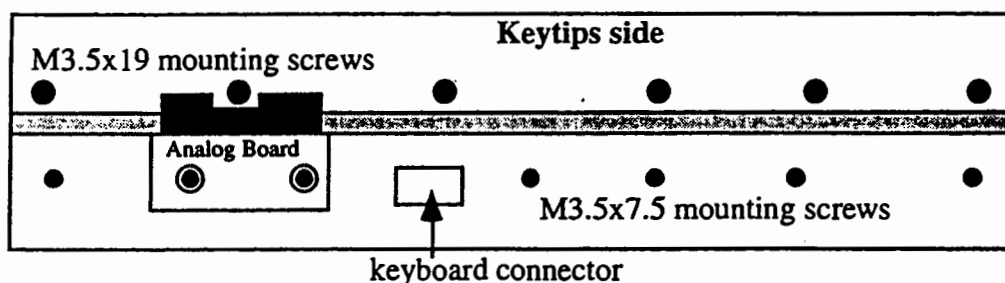

Figure 18 -
2. Turn the unit upsidedown and remove all the screws from the base and rear panel. Note that six (6) screws along key tip edge are self-tapping.
5. Remove the thirteen (13) screws that hold the keyboard to the keyboard mounting bracket (see Figure 18):
- a) Six (6) M3.5x19 in the front part (key tips side) of the keyboard mounting bracket, and
- b) Seven (7) M3.5x7.5 screws from the back (spring side) of the keyboard mounting bracket. Note that two (2) M3x7.5 screws are reached through holes in the analog board.